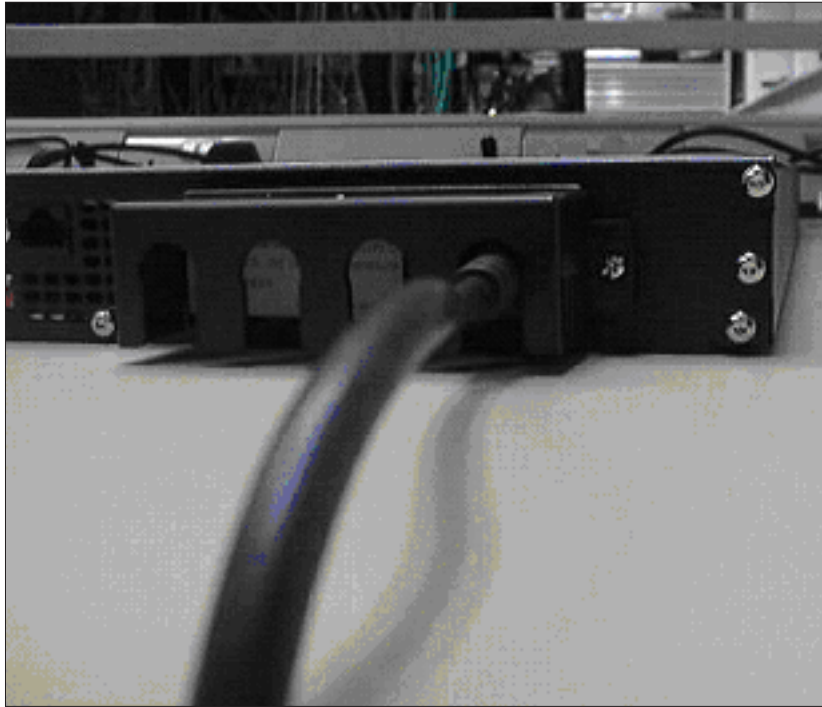

Figure 35. 2145-1U uninterruptible power supply power cable retention bracket
5. Secure the bracket in place with one screw on each side, as shown in Figure 35 on page 50.